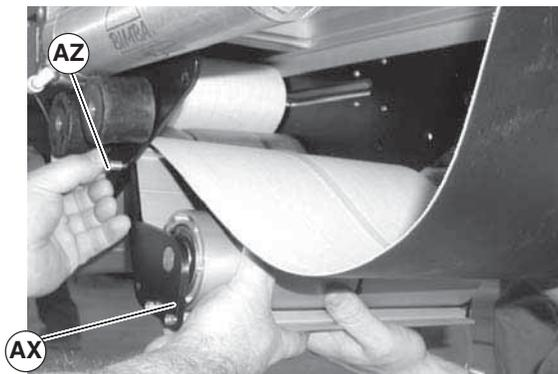

Figure 24
4. Swing down idler guard assembly (Figure 24, item AX). Remove screw (AZ) from both sides of center drive and remove idler guard assembly (AX).